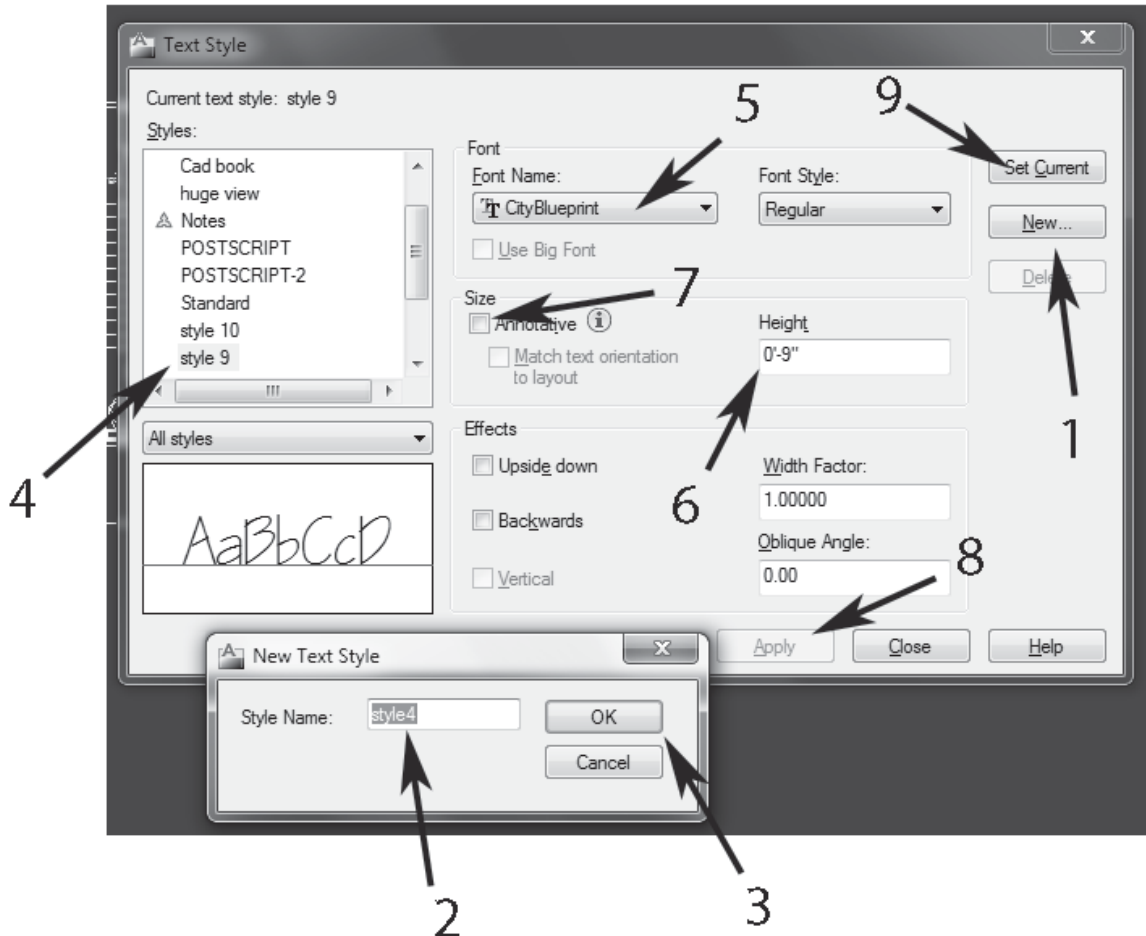

Fig 1-48
Now we must **create a text style**. Type: **style**. The **Text Style dialog box** will pop up (Fig 1-48). Click **New** (1 in Fig 1-48). **Name the style** in the window (at 2 in Fig 1-48), type: **style 9**. Then click **Okay** (3).
Back in the **Text style dialog box** **click the style 9 selection** (4). **Click on the drop down menu under Font Name** (5) and **select City Blueprint**. **Highlight the Text Height** (at 6 in Fig 1-48) and **over type: 9**. **Uncheck the Annotative box** (7). Click **Apply** (8), then **Set Current** (9), then **Close** (see Appendix I—Text for more info).